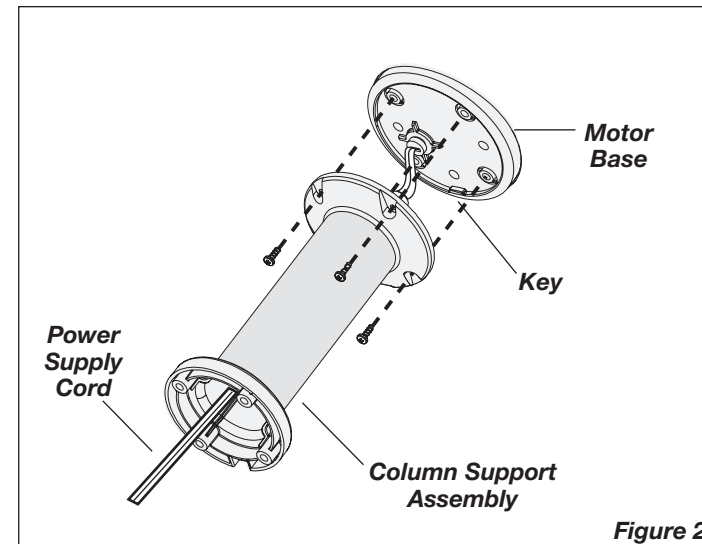

Figure 2
## TELECOMMANDE (Figure 2)
2. Attach the **Column Support Assembly** to the **Motor Base** with (4) M5 X 13mm Screws. Make certain to align the **Key** on the **Motor Base** with the **Locating Notch** on the **Column Support Assembly**. (Figure 2)